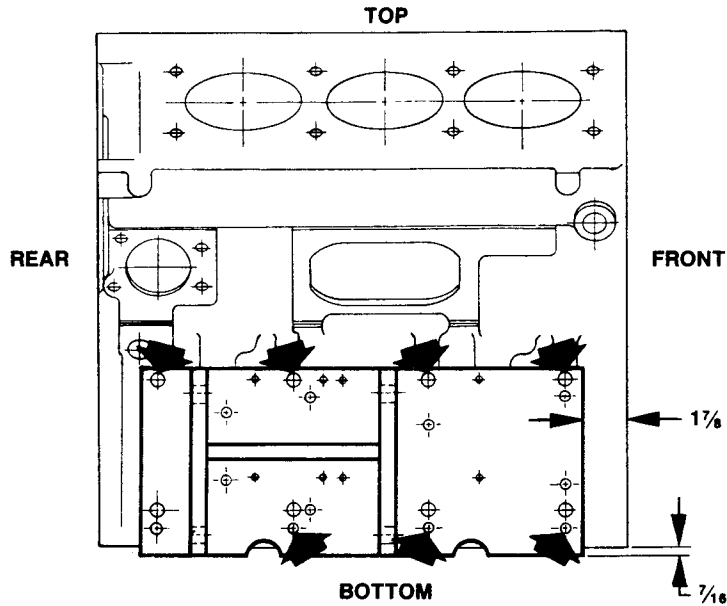

Fig. 3
1. After the engine has been lifted out of the vehicle, attach the Mounting Plate to the side of the engine as shown in Figures 3 & 4.